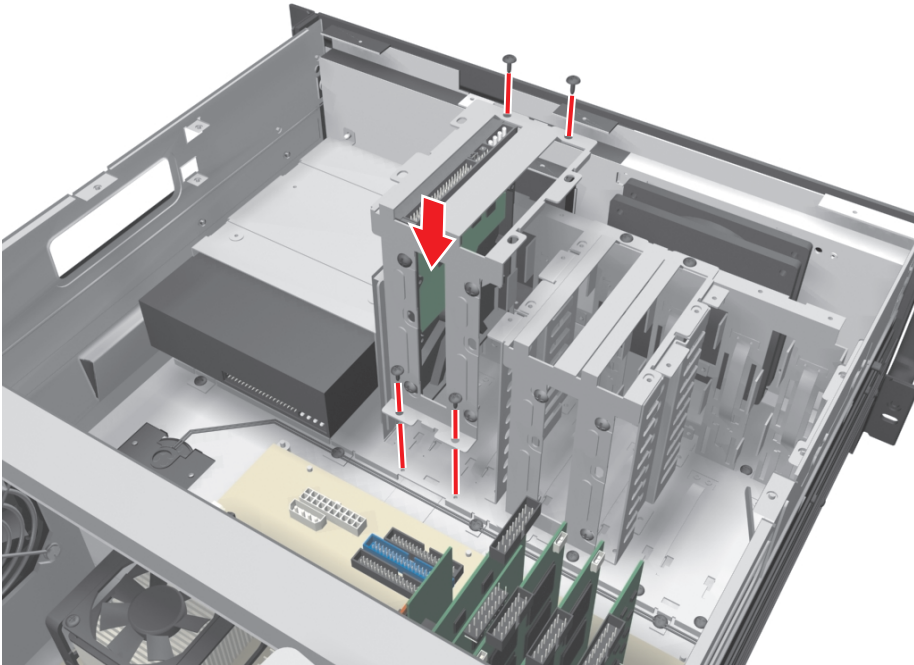

Figure 13. Replacing Drive Basket
2. Mount the drive basket back into the chassis (refer to Figure 13):
- a. Align the basket and press down firmly to ensure that it fits flush against the top of the chassis bracket. Refer to Figure 13.